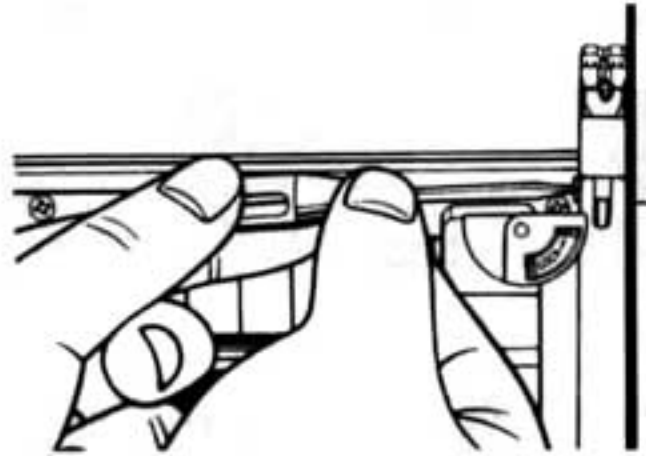

Fig. 6
8. Set the power switch to "on" to shift the tonearm back to the start position and then tighten the setscrew. (See Fig. 6.)